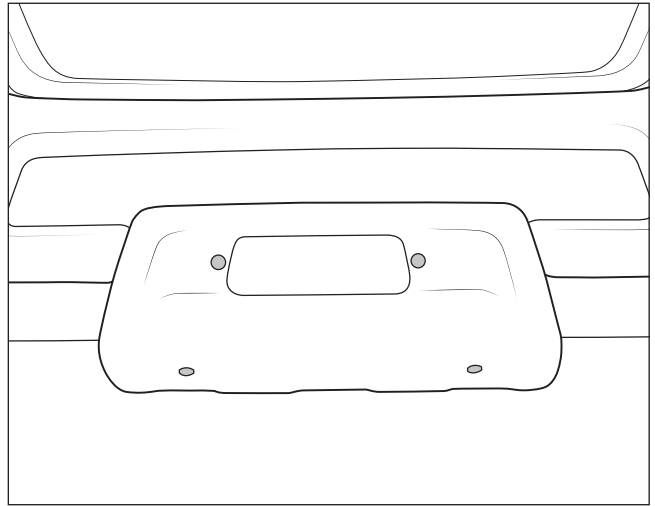

Figure 2
- B. Remove the 2 M10 bolts in middle of Front Bumper Skid (fig. 2).
- C. Remove the 2 torx bolts from bottom of Front Bumper Skid (fig. 2).
18. Reinstall Front Bumper Skid (fig. 2).